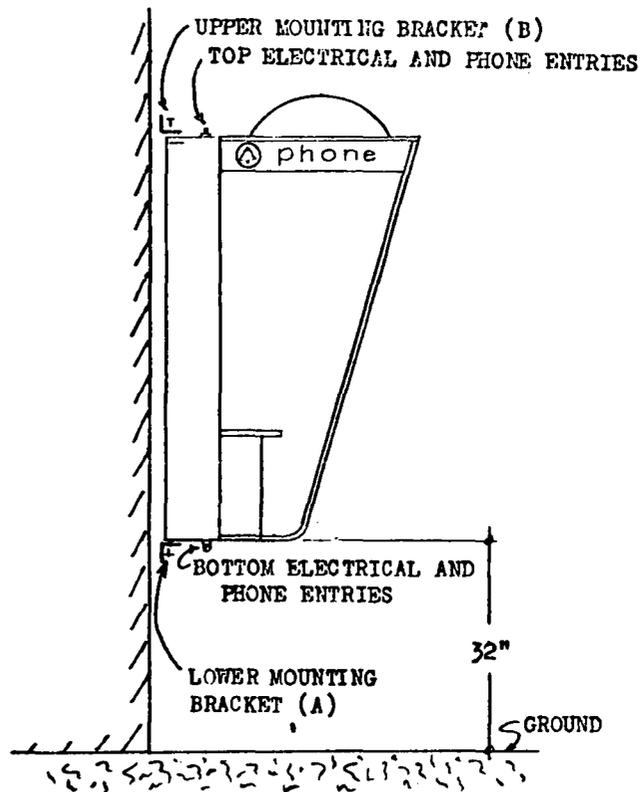

Fig. 4
3.09 When the BN-858A shelter booth is to be wall-mounted, a special wall-mounting kit must be ordered with the booth. The upper mounting bracket (B) is mounted on the booth before shipment. Fasteners for anchoring brackets (A) and (B) to the wall are not included (see Table A).
- (a) Remove lower mounting bracket (A) that is wired to the bottom of the directory facility on the booth (see Fig. 4).
- (b) Fasten lower mounting bracket (A) to the wall through the three (3) holes with the top of the bracket (A) 32 in. above the ground.
- (c) Remove the two (2) rear Allen-head bolts on the bottom of the booth. Allen wrench is provided.
- (d) Position booth on lower mounting bracket (A) and, while holding booth in place, fasten upper mounting bracket (B) to wall and replace the two (2) Allen-head bolts through the lower mounting bracket (A) into the booth.